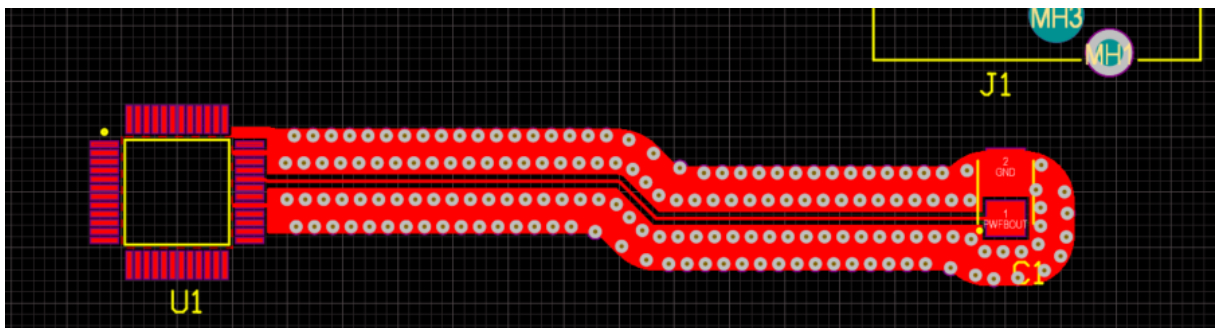

Figure 11. Removed Polygon Pour within component U1
32. Confirm that there are no longer polygon pours or vias within component U1 as shown in Figure 11.